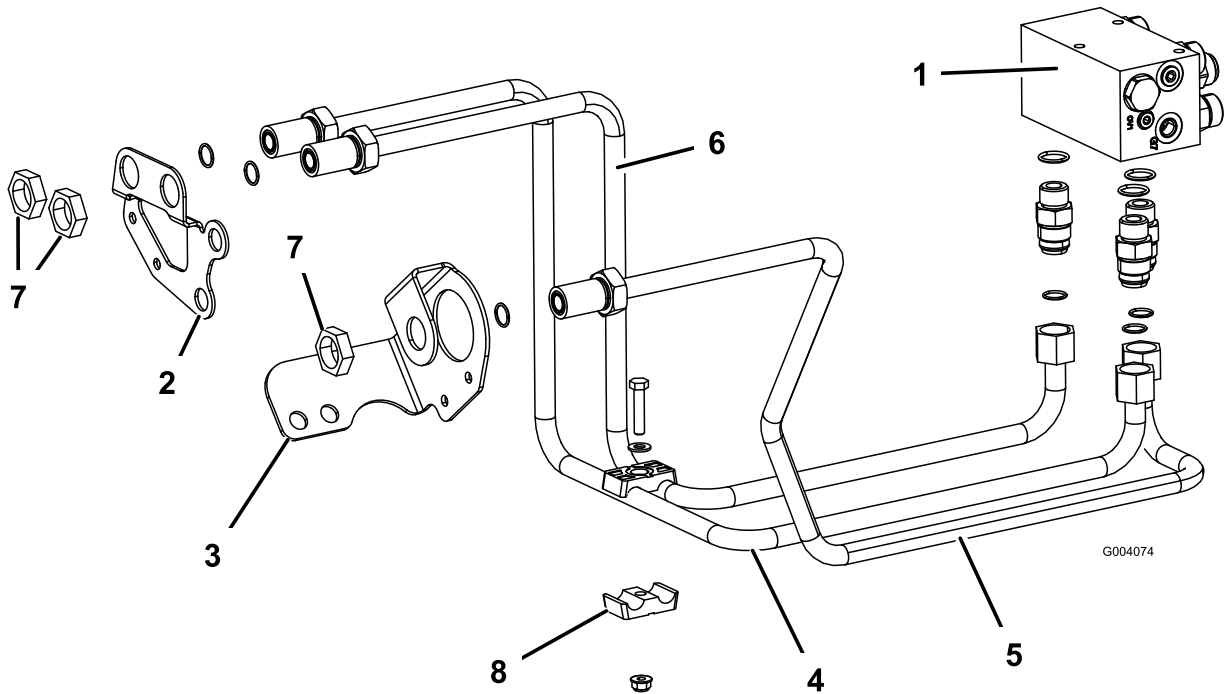

Figure 10
- right hole in the right frame bulkhead bracket (Figure 10).
2. Secure the rear of the hydraulic tube to the manifold fitting and the front to the bulkhead with a locknut (1-5/16 inches); refer to Figure 10.
3. Route hydraulic tube, Part No. 108-7626, from the center manifold fitting labeled "REV" to the hole in the left frame bulkhead bracket (Figure 10).
5. Route hydraulic tube, Part No. 108-7625, from the right manifold fitting labeled "LF" to the left hole in the right frame bulkhead bracket (Figure 10).
7. Secure the 2 right bulkhead lines together with the tube clamp halves, bolt (5/16 x 1-1/2 inches), flat washer (5/16 inch), and a flange nut (5/16 inch); refer to Figure 10.